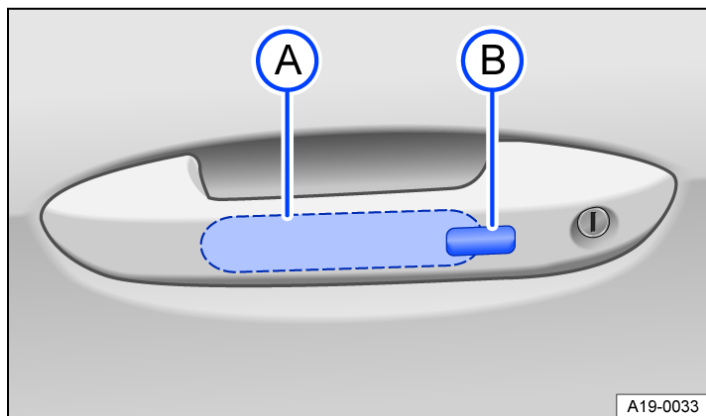

Fig. 1 In the door handle: sensors.
1. Touch the sensor → Fig. 1 **A** on the inside of the door handle. All turn signals flash *twice*.
2. Touch the sensor → Fig. 1  on the outside of the door handle. All turn signals flash *once*.